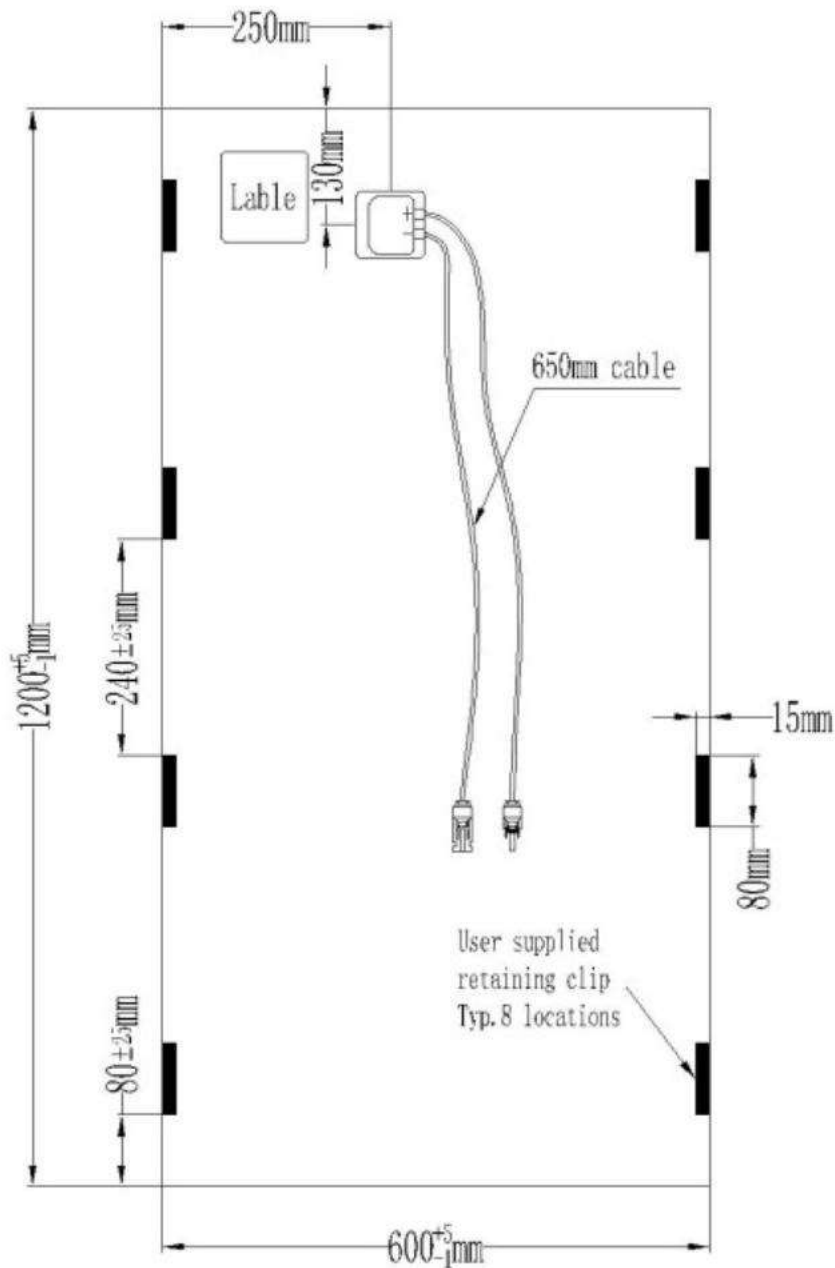

Figure 2: Recommended Location of Retaining Clips (Back Side)
5.8.1. For standard roof mounting modules should be secured to the support structure with appropriate clips at eight (8) symmetrical points (see Figure 2). The locations of clips shall be along the 1200 mm length of the module and outermost clips shall be located at 80 ± 25 mm from the module corner. The distance between clips on the same edge should be in a range of 215 mm to 265 mm